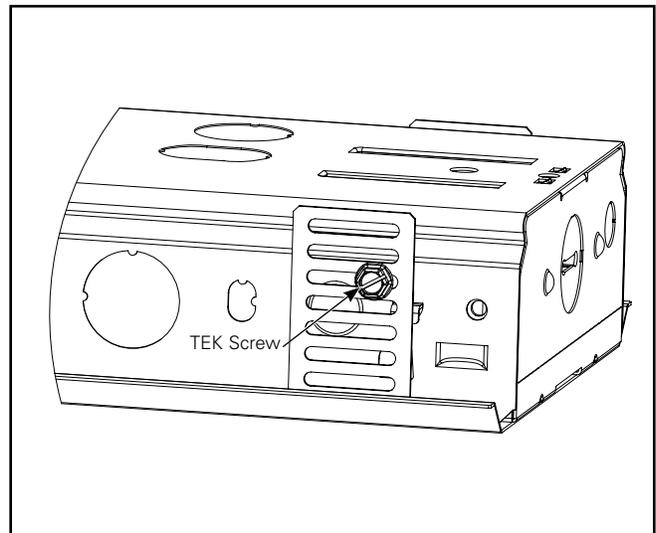

Figure 5.
6. Fasten the mounting brackets to the sides of the existing channel using the TEK screws. Install 1 TEK screw on each side of the mounting brackets, for a total of 4 different places. (Figure 5.)